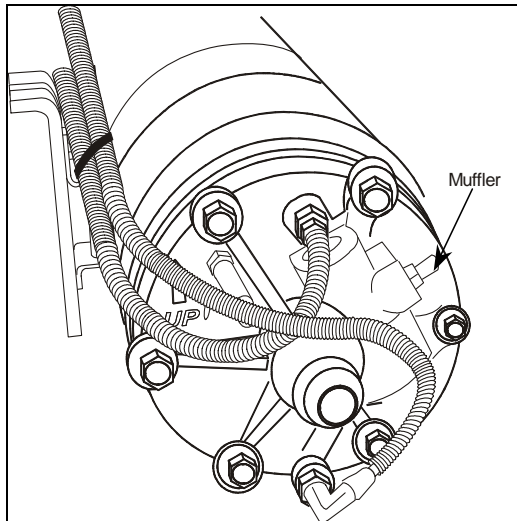

Figure 1.1 Rear view of Tank
2. Remove the original depressurizing muffler located on the end cap at the rear of the tank as shown in figure 1.1